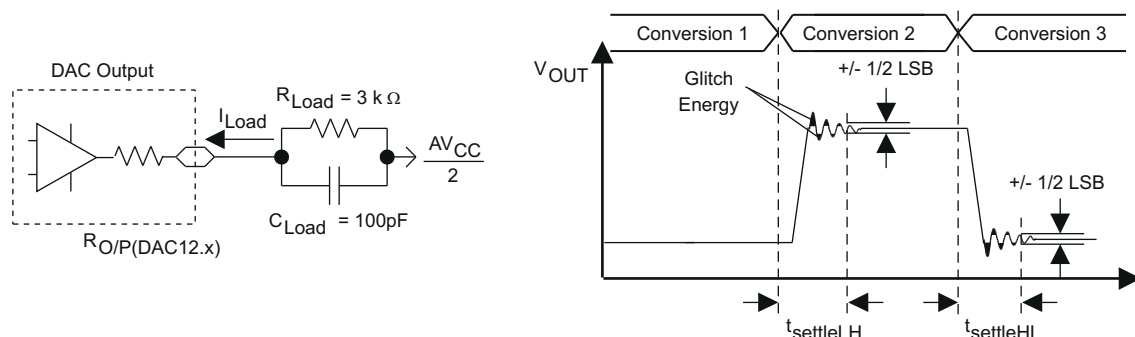
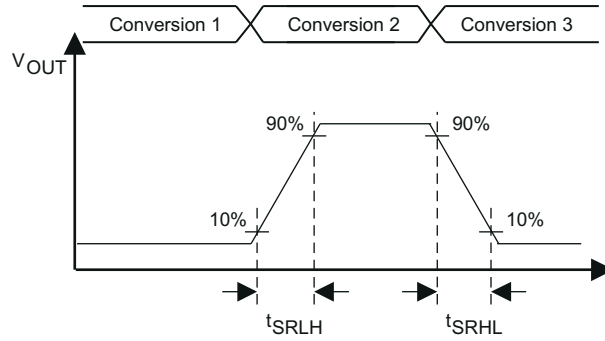

Figure 8-25. Settling Time and Glitch Energy Testing
Figure 8-26. Slew Rate Testing
V_{ref} = V_{CC}, DAC12IR = 1, over recommended operating free-air temperature range (unless otherwise noted) (see Figure 8-25 and Figure 8-26)
- (1) R_{Load} and C_{Load} connected to AV_{SS} (not AV_{CC}/2) in Figure 8-25.
(2) Slew rate applies to output voltage steps ≥ 200 mV.